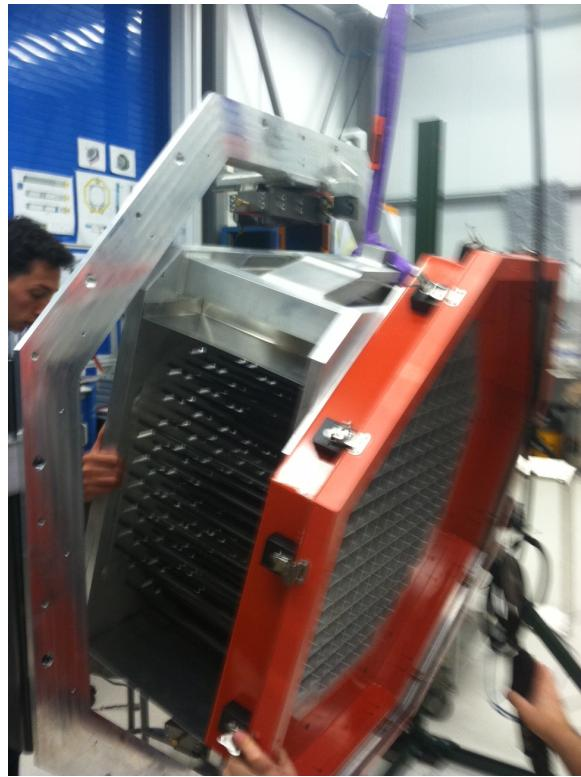

Figure 9
5. Pop top ball joint out. Now the top tilts forward. See Figure 9.